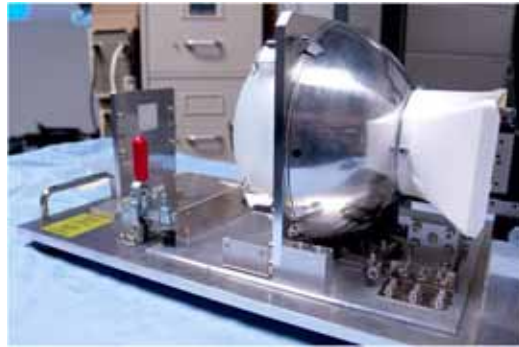

Figure 5 – Place Lamp in Jig
8. Place the lamp house on the jig with the reflector side (front) facing the alignment pattern on the jig as shown in Figure 5 – Place Lamp in Jig5.